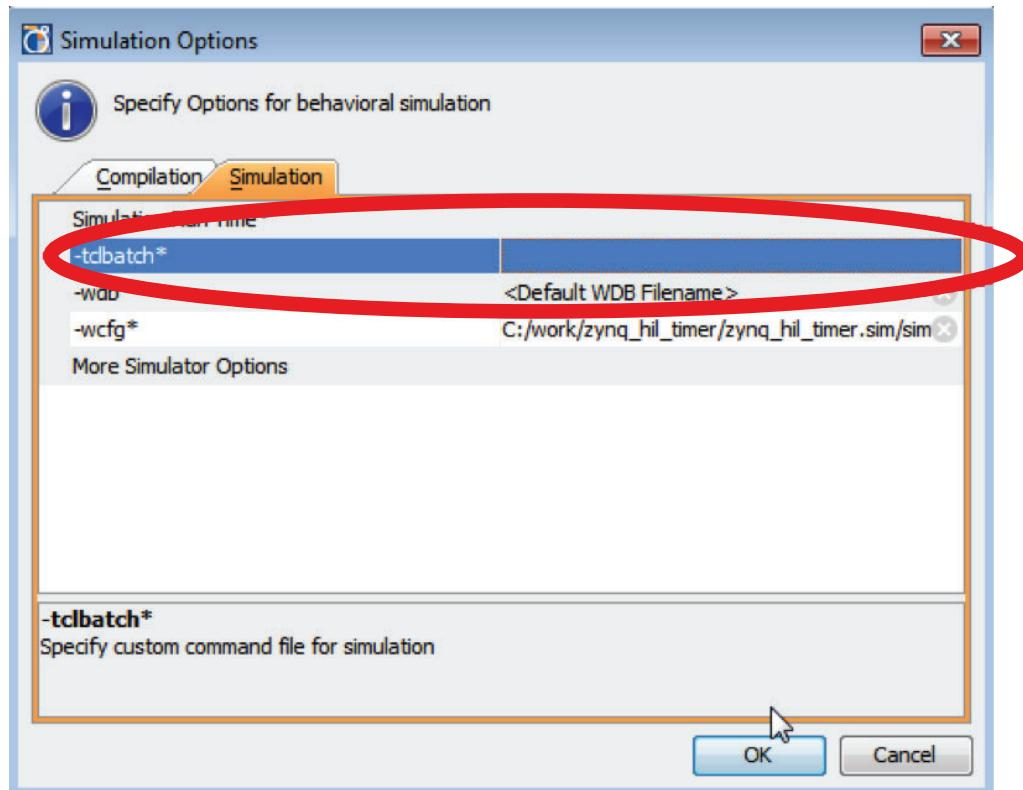

Figure 34: Simulation Options
5. Clear the `zynqHIL.tcl` command file name from the `-tclbatch` target field as shown in Figure 34.